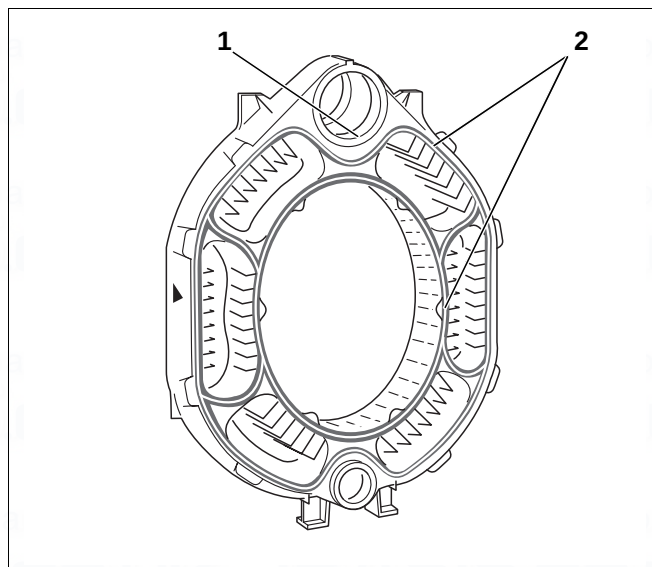

Fig. 12 Preparing the centre section
- ▶ Evenly coat the hub sealing faces with sealant (Fig. 12, [1]).
- ▶ Coat the packing springs with adhesive (adhesive base) (Fig. 12, [2]).